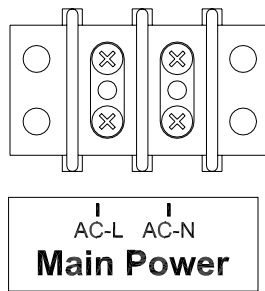

Figure 13 Power to Scoreboard Connections
3. Connect the AC line wire and AC neutral wire to the **Main Power** terminal block on the junction chassis according to Figure 13.